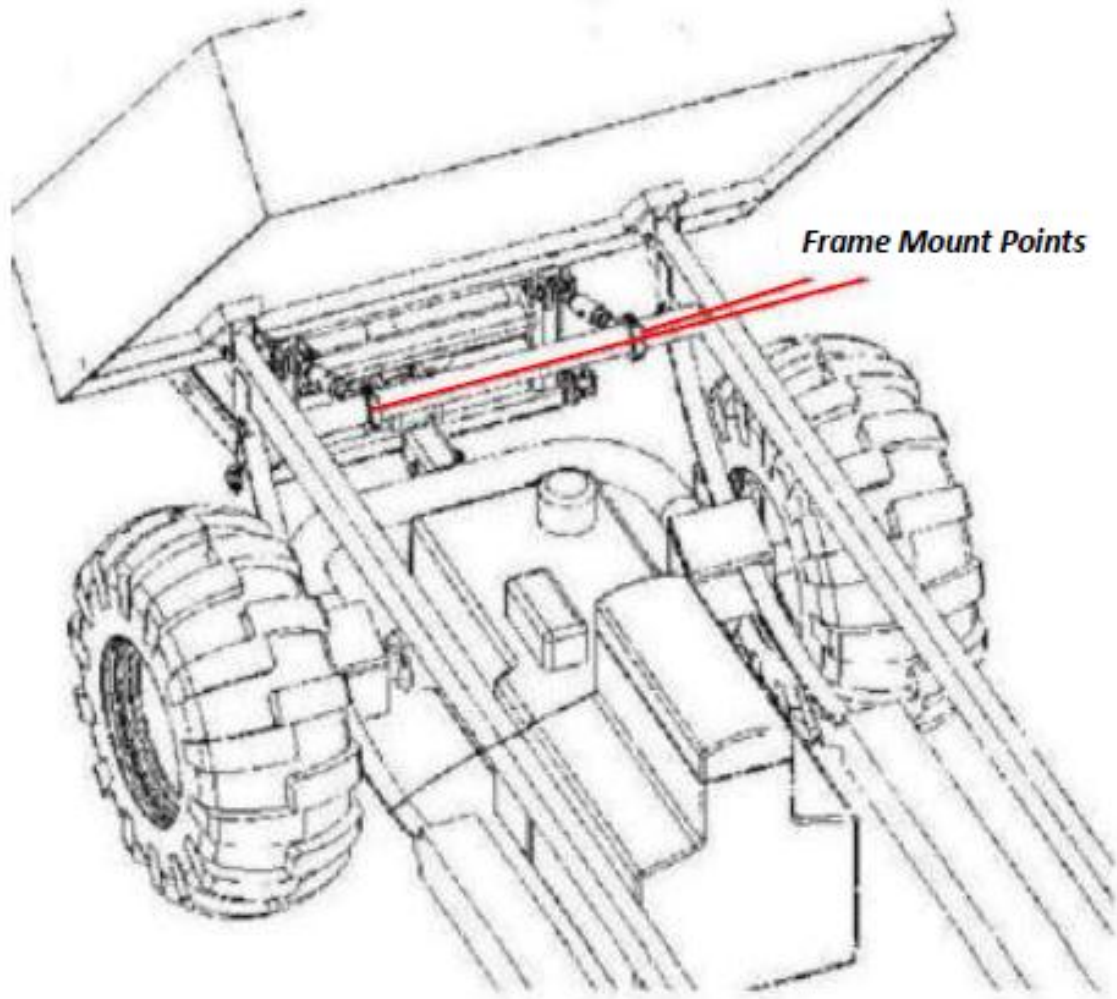

Figure 2
- 4) Attach split clamps to frame (figure 2, page 2). Leave main support turnbuckles attached to split clamps with the provided pins when installing the split clamps. Be sure not to tighten fully yet.